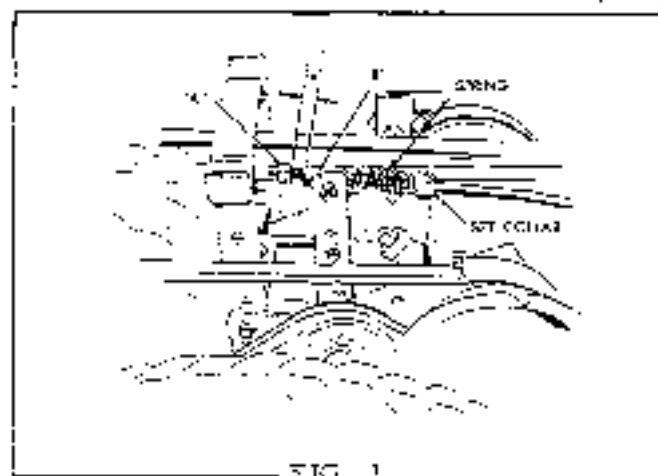

FIG. 1
With clutch and brake pedal in normal position (i. e., clutch engaged and brake released), adjust hex nuts (A) to give  $3/4$ " clearance between rod guide assembly (B) and nuts. (See Fig. 1).
Position the set collar on the clutch rod to compress the spring about  $5/8$ ". Then recheck and position the locknuts "A" to leave a spacing of about  $3/4$ " between them and the end of the rod guide "B", Fig. 1. Check to see that when the pedal is operated, the spring is completely decompressed as the locknuts engage the end of the rod guide.